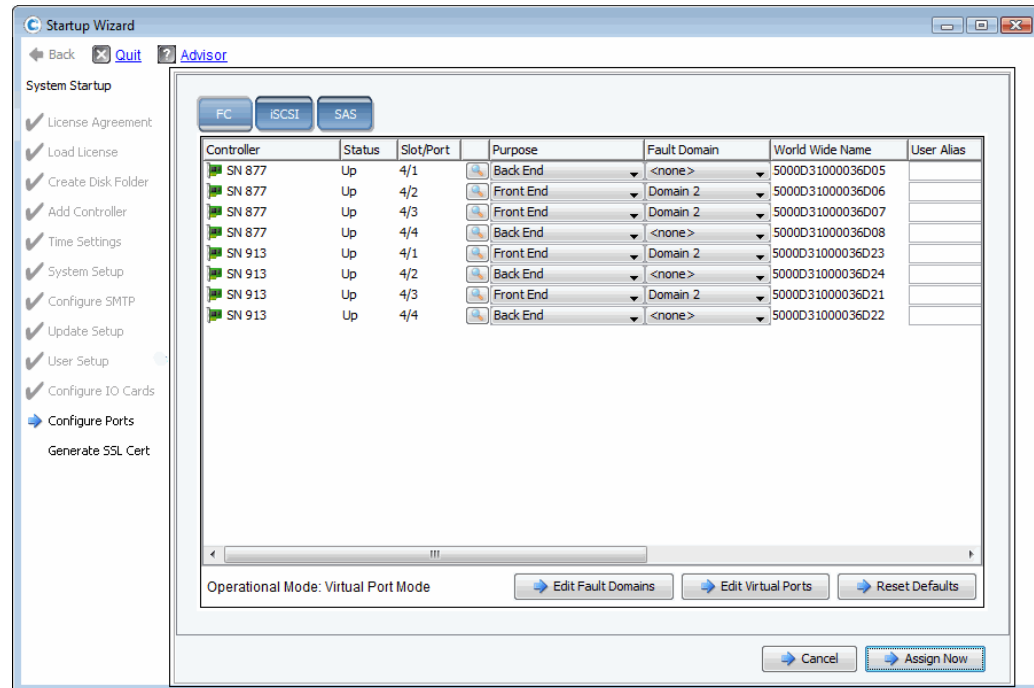

Figure 31. Configure Ports (Fibre Channel)
- 5 If there are no warnings, click **Continue**. If there are warnings, click **Configure Local Ports** to modify the configuration and correct any issues that cause warnings. Refer to Figure 31 on page 36.